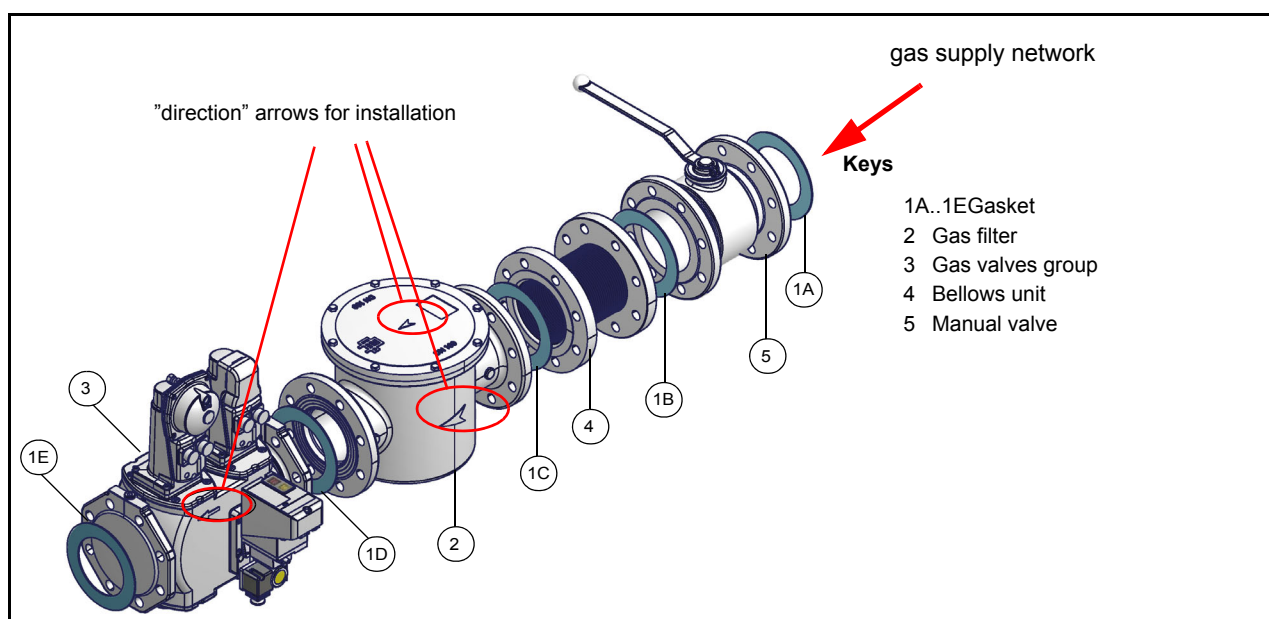

Fig. 8 - Example of gas train
1-b) in case of flanged joints: place a gasket (no. 1A..1E - Fig. 8) between the elements
**ATTENTION:** once the gas train is mounted according to the diagram on Fig. 8, the gas proving test must be performed, according to the procedure set by the laws in force.